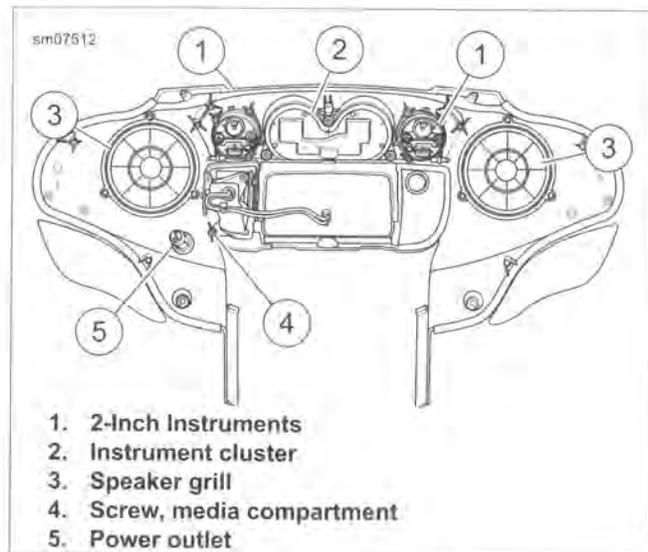
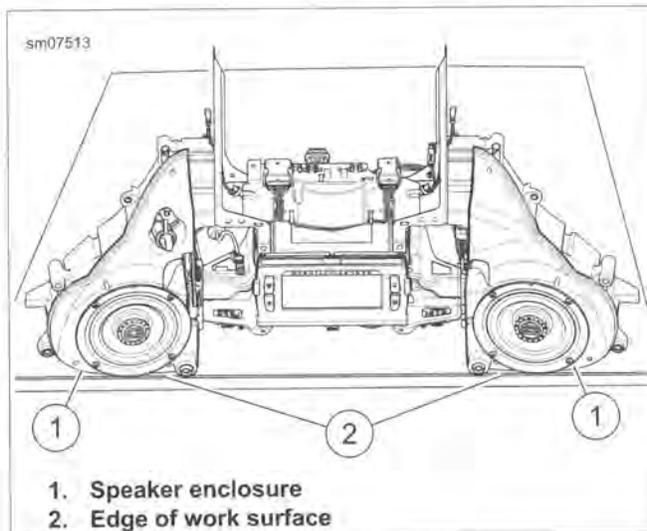

Figure 2-143. Support Structure Removed
Figure 2-144. Support Structure Assembly
- See Figure 2-143. Remove screws to release 2-inch gauges (1) and instrument cluster (2).
- Remove screws to release speaker grills (3).
- Remove screw (4) to release media compartment.
- Remove power outlet (5).
- See Figure 2-143. Install power outlet (5). Tighten to 13-17 **in-lbs** (1.5-1.9 Nm).
- Verify media compartment door is open. Install media compartment. Tighten screw (4) to 8-12 **in-lbs** (1.0-1.3 Nm).
5. Install speaker grills (3) with arrows aligned with those on the inner fairing. Tighten to 9-13 **in-lbs** (1.0-1.5 Nm).
6. Install 2-inch gauges (1). Tighten to 8-12 **in-lbs** (1.0-1.3 Nm).
7. Install instrument cluster (2) using single screw at top. Tighten to 8-12 **in-lbs** (1.0-1.3 Nm).
8. See Figure 2-144. Place support structure assembly on the work surface with the tops of the speaker enclosures near the edge of the work surface.